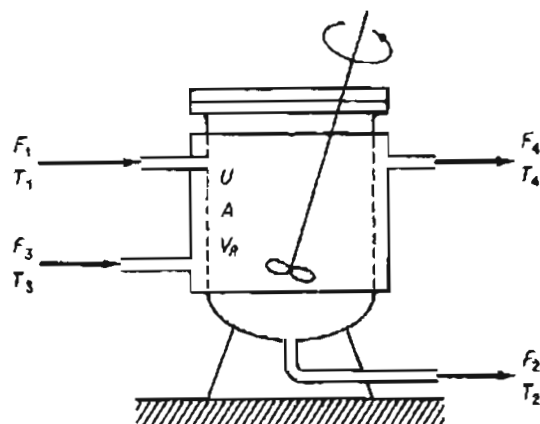

Figure P31.2
- 31.2** You are asked to perform a feasibility study on a continuous stirred tank reactor shown in Figure P31.2 (which is presently idle) to determine if it can be used for the second-order reaction